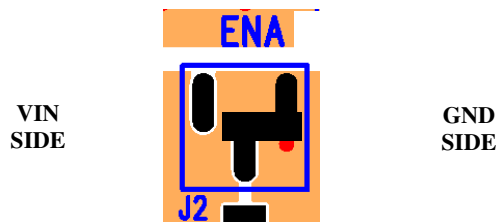

Figure 2: J2 allows control of the Enable pin.
STEP 4: The SEL jumper controls the EN_PB pin. If left floating, this pin is pulled high internally, and the device will support monotonic startup under pre-biased load. To pull this pin low, put the jumper between the middle and right pins just as shown in Figure 2 for the ENABLE pin.